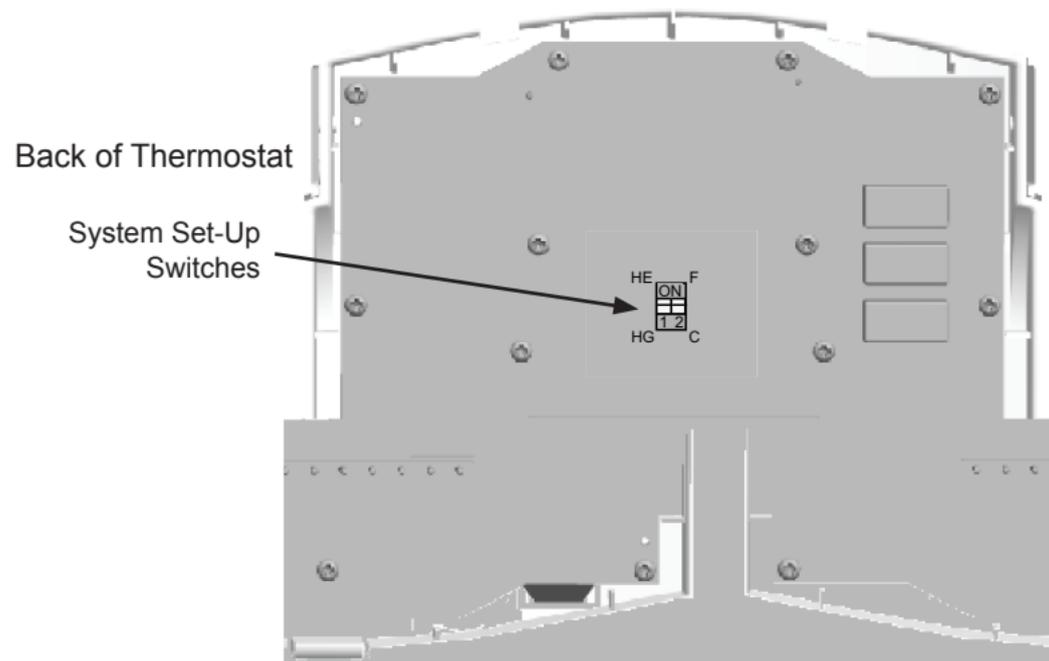

Figure 5
- On the back of the thermostat are the System Set-Up Switches. See Figure 5. (NOTE: For clarity, the illustration of the thermostat circuit board omits most of the circuit board components to clearly show the System Set-Up Switches.) If the heat pump system has an electric auxiliary system, then slide the #1 switch to HE position. If the heat pump system has a gas auxiliary system, then slide the #1 switch to the HG position.